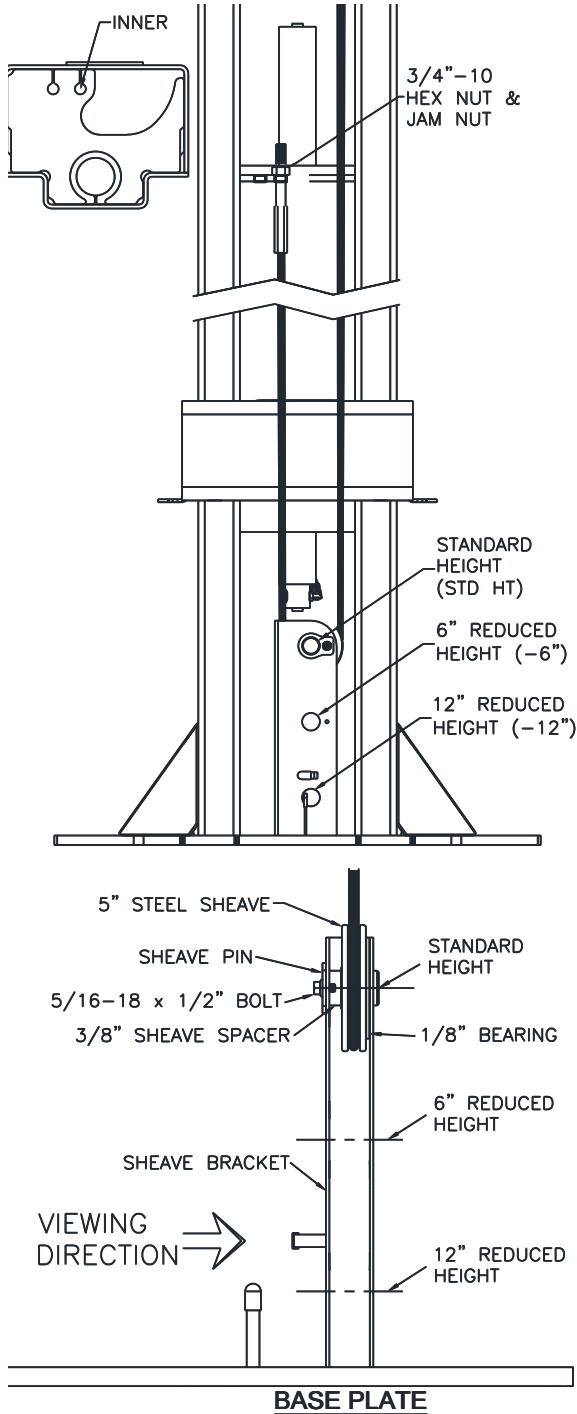

Fig. 2 – Cable Routing
- 4) Manually push carriages up enough to unhook the cylinder hose from the base plate tabs. Proceed with pushing the cylinder and carriage up enough to access all three sheave locations on the sheave bracket, see **Fig 2**.
- 5) Determine the sheave location on the bracket based on Column Extension Height, see Fig 2. **Note: The column has been assembled with the sheave in the highest position on the bracket for the lift installed at STD (max) height.** Reposition the sheave to the middle hole for -6" install height and to the bottom position for -12" install height.
- 6) Remove the bolt, sheave pin, sheave, spacer, and bushing, **Fig. 2**, to allow the cable to be installed.
- 7) Route a cable through a carriage and out the bottom. Route it back up and into the inside hole at the top of the carriage, see Fig 2. **Ensure cables do not twist or wrap around hoses during routing.**
- 8) Place the 1/8" spacer inside the bracket centered over the bracket hole based on the chosen install height. Install the cable on the sheave and slide into place. Stack the 3/8" spacer onto the sheave assembly. Still holding the sheave assembly, slide the pin into place. Install the bolt to secure the pin, see **Fig 2**.